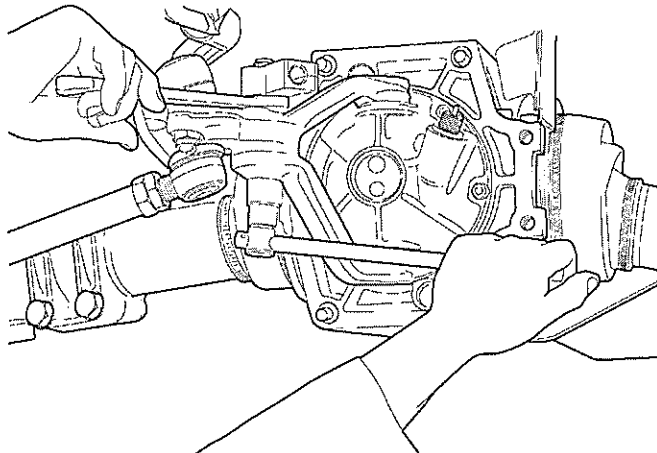

Fig 7 Removing drag link arm tension bolt
19.2 Place oil drip pan under drag link arm housing and turn drag link arm to right (see Fig 7).